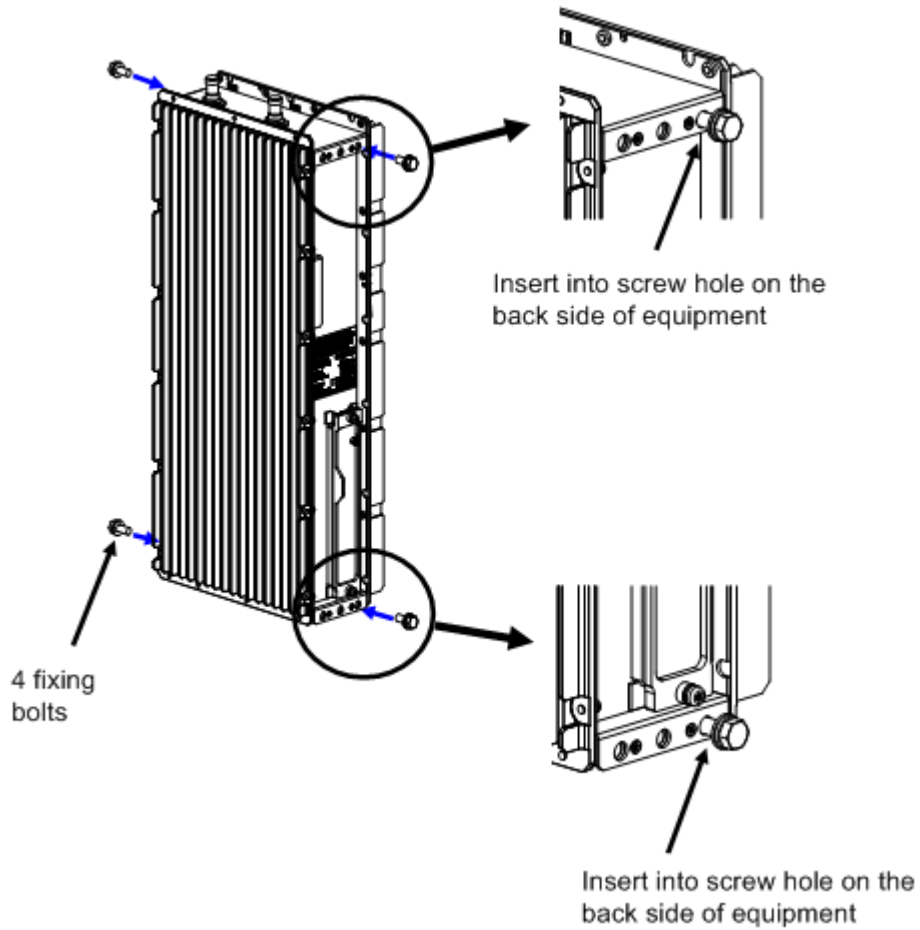

Figure 20 Fixing Bolts Installation
- 1 Insert the 4 fixing bolts into the screw holes on the top, bottom, left and right side of equipment (the back side hole out of the 3 screw holes in a row) for about the half of their length and temporarily fix them. Refer to Figure 20 for installation of fixing bolts
- 2 Hang the equipment by the four M8 bolts (attached to equipment) temporarily fixed in step (1) onto the chases on top/ bottom/ left and right of the dedicated mounting hardware. Refer to Figure 20 for installation onto the mounting hardware.